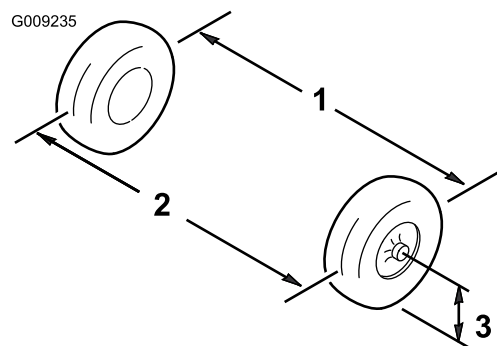

Figure 52
- Measure the distance between both of the front tires at the axle height at both the front and rear of the front tires (Figure 52).